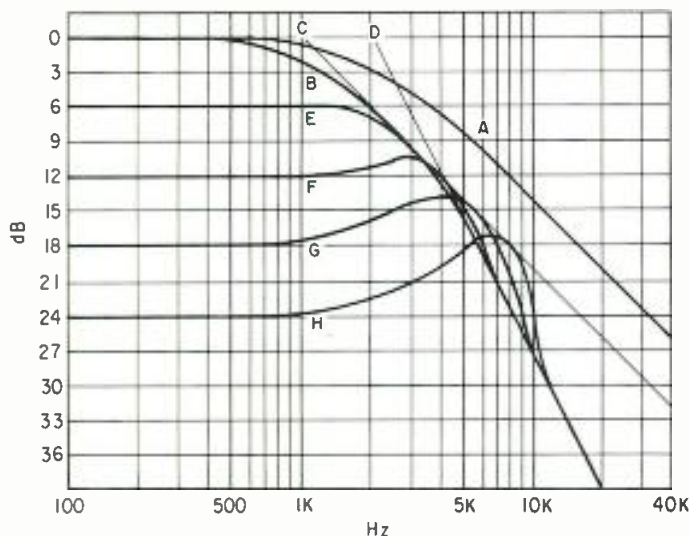
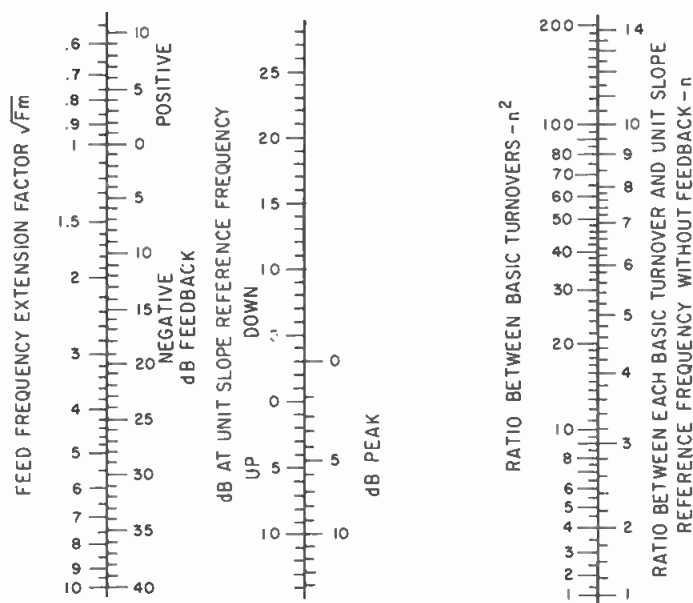
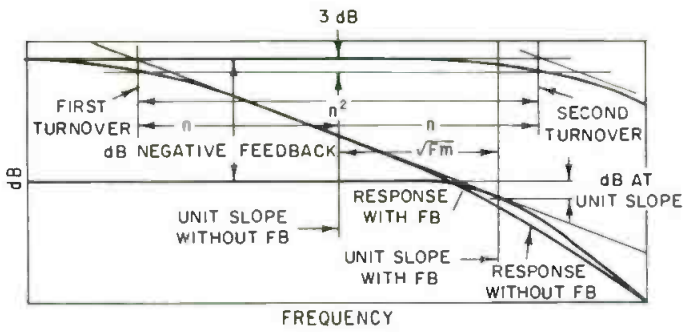

Figure 2. Effect of feedback with two identical roll-offs at the high end. (From Crowhurst, N. H. Feedback, 1952).
Figure 3. An abac for calculating response details in feedback over two roll-offs. (From Crowhurst, N.H., High Fidelity Sound Engineering, 1961).
Figure 4. How the abac of Figure 3 is used. (From Crowhurst, N. H., High Fidelity Sound Engineering, 1961).
That is, in a sense, the starting point for the interaction concept. When you move to using feedback over two or more stages, the extension of frequency response is no longer so simple, but involves interaction between the stages, brought about due to phase effects. FIGURE 2 shows the effect of two stages, each having a roll-off shown by curve (A).
At the low frequency end, this pattern is exactly reversed when you have two elements contributing to a low frequency roll-off within a feedback loop. FIGURE 18 is an abac to facilitate calculating what feedback does in all such cases. In FIGURE 2, we assumed identical roll-offs. That condition is a special one, which will not often apply. FIGURE 4 shows how to apply FIGURE 3 in locating the response.
You have two turnovers, spaced at a frequency ratio of n^2 . Midway between them, the response without feedback will have a slope of 6 dB/octave. Applying feedback will extend the touch point on the 6 dB/octave (or unit slope) by the extension factor, read across the left hand line in FIGURE 3. The chart can be used to find all reference points on the curve, given the necessary data.